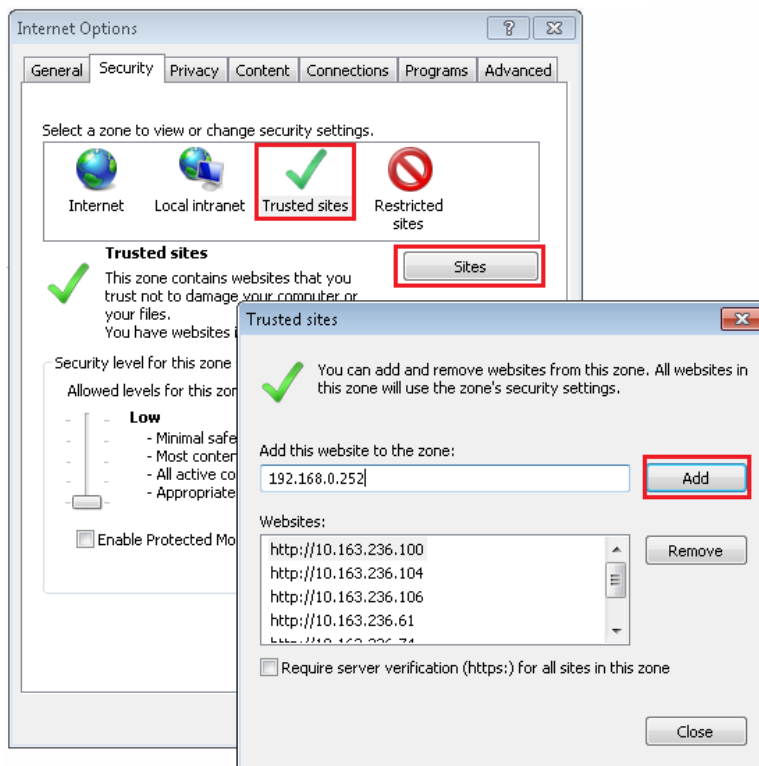

Figure 3-8 Adding trusted sites
6. In the window shown in Figure 3-8, add the IP address of the RDU-SIC G2 into the trusted site list.